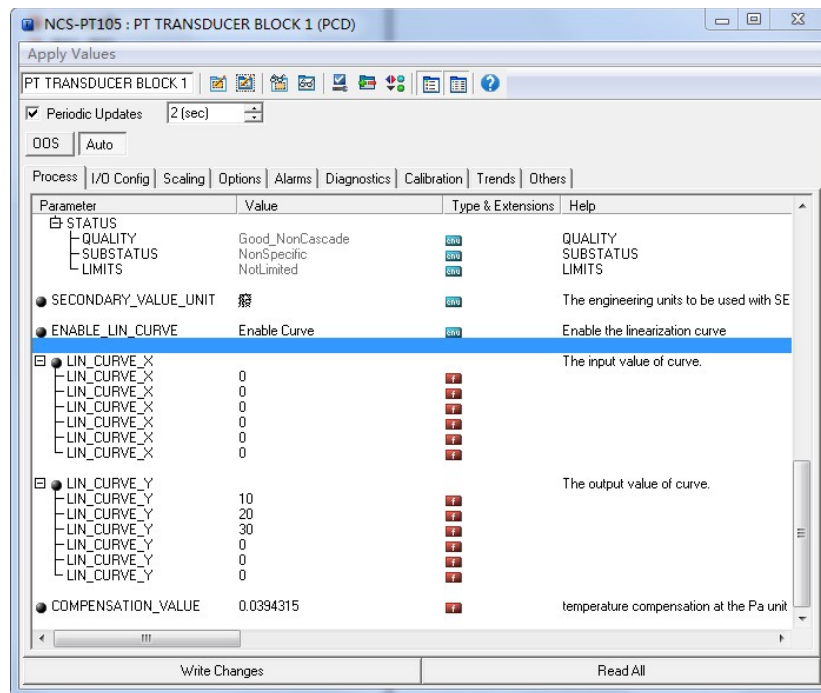

Figure 6.4 IN_CURVE_Y Configuration
- 1) The intelligent transmitter provides six correction point inputs, namely the parameter LIN_CURVE_Y array of the transformation block, and the user can successively write the calibrated pressure value to the array and select good units. For example, when performing a three-point interpolation calibration, the user selects 10 kPa, 20 kPa, and 30 kPa as the calibration points and writes the three values in the LIN_CURVE_Y array, as shown in Figure 6.4.